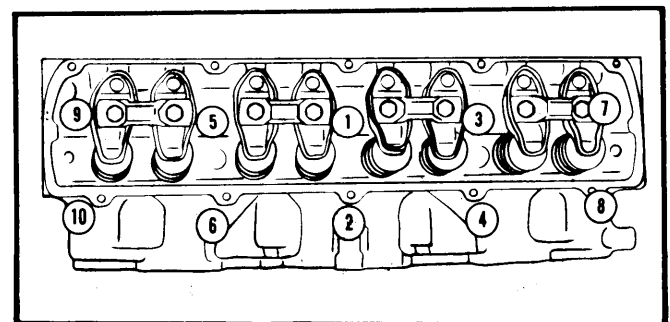

Fig. 2 Cylinder Head Tightening Sequence
2) Dip manifold bolts in oil and tighten in two steps. See Fig. 2. Install drain tube and apply chassis lube to seal area on adapter, taper edge and seal area of manifold. Use seal installing tool (J-28425) to properly position seal on adapter, then tighten bolts.
2) Clean and dip cylinder head bolts in engine oil and tighten in two steps. See Fig. 2.